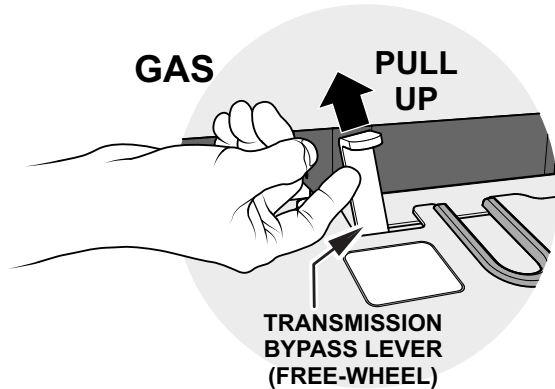

Figure 55. Transmission Bypass Lever (Free-Wheel)
1. **Pull up** on the transmission bypass lever (Figure 55).